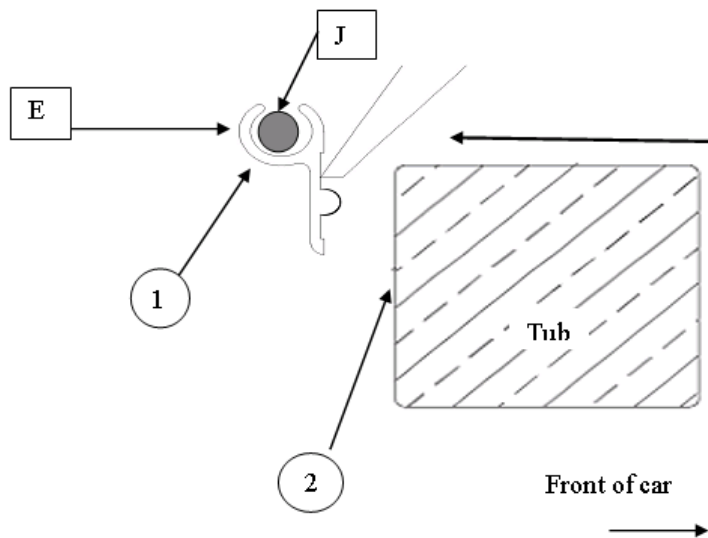

Figure 1: Placement of aluminium rope track. Ensure channel is above the tub's top edge.
1. Using two pieces of dowel, join the 3 aluminum rope tracks together Place the other 2 pieces of dowel in the ends of the now joined rope track. Rest the aluminum rope track on the side rails, ensure the flat side of the rope track is the surface positioned against the tub face. **See Figure 1 pg 2.** Apply silicon to the back of the seal plate, then bolt seal plate on using 2 x 40mm bolts supplied. Fill all remaining gaps around the top edge of seal plates with silicone to ensure they will not leak. Repeat RHS